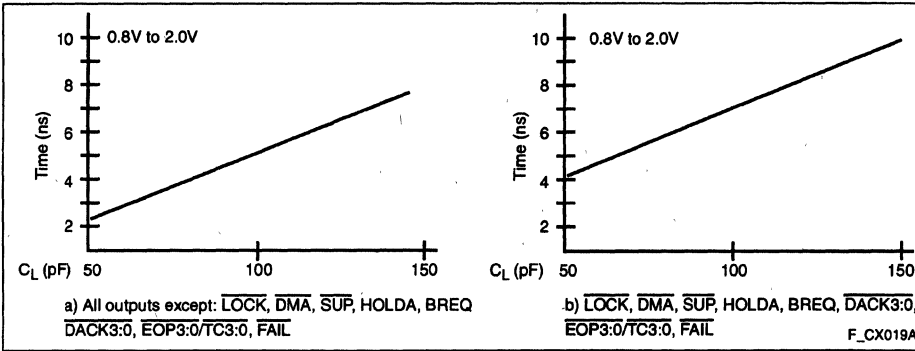

Figure 16. Rise and Fall Time Derating at Highest Operating Temperature and Minimum V_{CC}
3. See Figure 16 for capacitive derating information for rise and fall times.